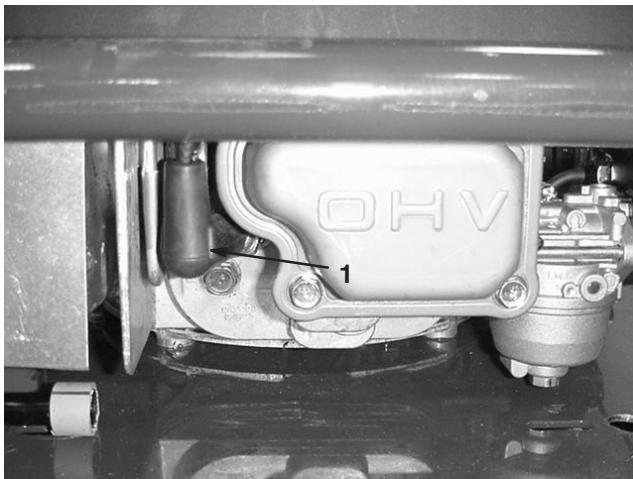

Figure 36
2. Disconnect the wire from the spark plug (Fig. 36).